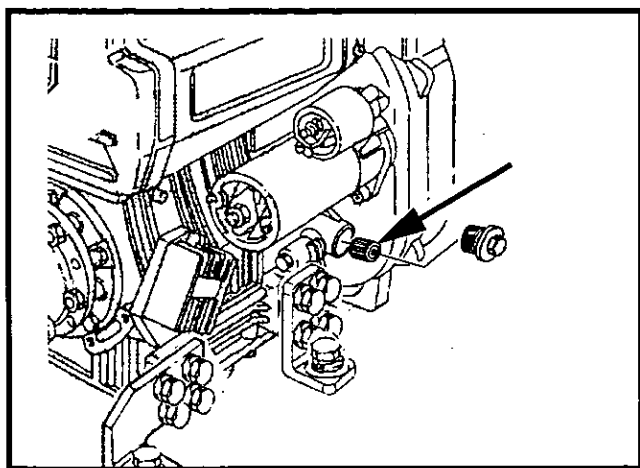

Figure 5-22 Engine Oil Filter
4. Clean and remove filter cover and remove used filter (1, Figure 5-22) catching any escaping oil in the container. Dispose of oil and filter in accordance with local regulations.